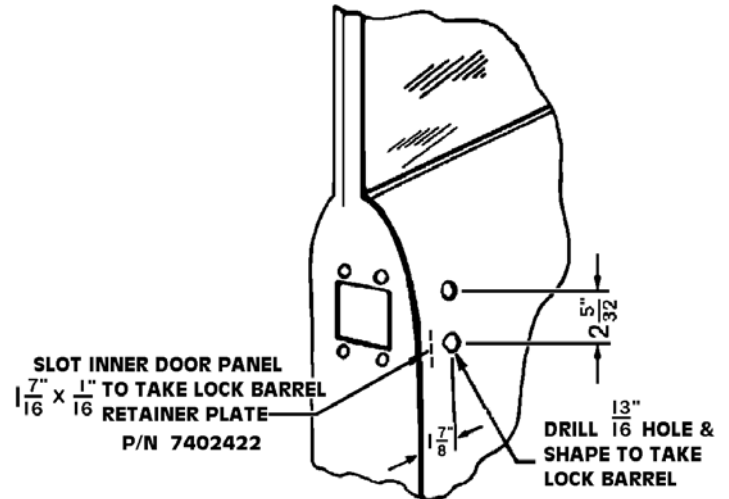

Fig. 5
- (1) The removal of the four bolts which attach the lock cover plate and lock to the door pillar face.
- (2) The drilling of a  $\frac{13}{16}$  dia. hole and filing of edge to accommodate the irregular shape of the lock barrel (see Fig. 5).
- (3) The slotting of the door pillar facing to receive the lock Barrel retainer plate, Part No. 7402422.